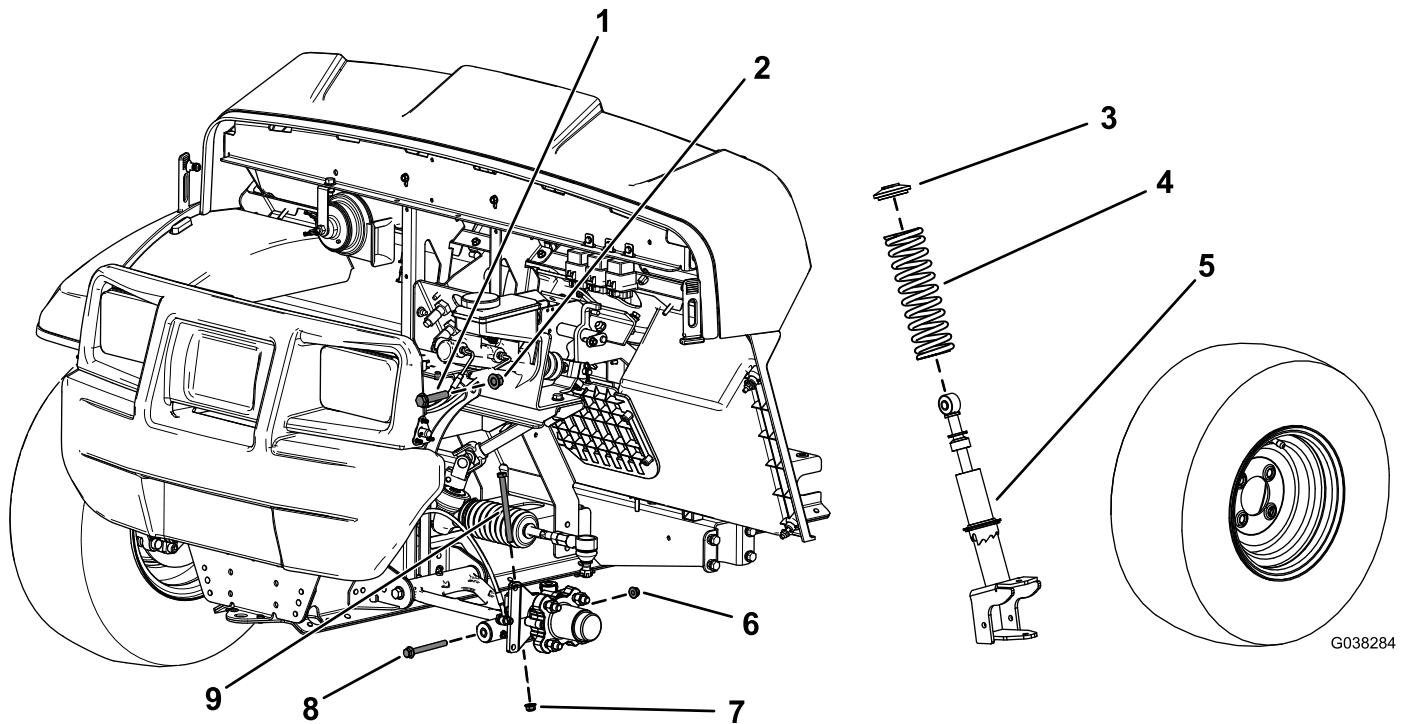

Figure 101
3. Remove the hex-head bolt (3/8 x 4-3/4 inches) and flange nut (3/8 inch) from the spindle (Figure 101).
4. Remove the hex-head bolt (3/8 x 3-1/2 inches) and flange nut (3/8 inch) from the control arm (Figure 101).
5. Remove the hex-head bolt (1/2 x 2-1/4 inches) and locknut (1/2 inch) securing the strut assembly to the upper frame (Figure 101).
6. Remove the strut assembly (Figure 101).
3. Remove the spring from the strut assembly (Figure 101).
4. Install the new spring over the existing strut assembly (Figure 101).
2. Secure the upper portion of the strut assembly to the frame using the upper, hex-head bolt (1/2 x 2-1/4 inches) and locknut (1/2 inch) as shown in Figure 101.
4. Install the hex-head bolt (3/8 x 4-3/4 inches) and flange nut (3/8 inch) to the spindle (Figure 101).
6. Secure the lower portion of the strut assembly to the control arm using the hex-head bolt (3/8 x 3-1/2 inches) and flange nut (3/8 inch) as shown in Figure 101.